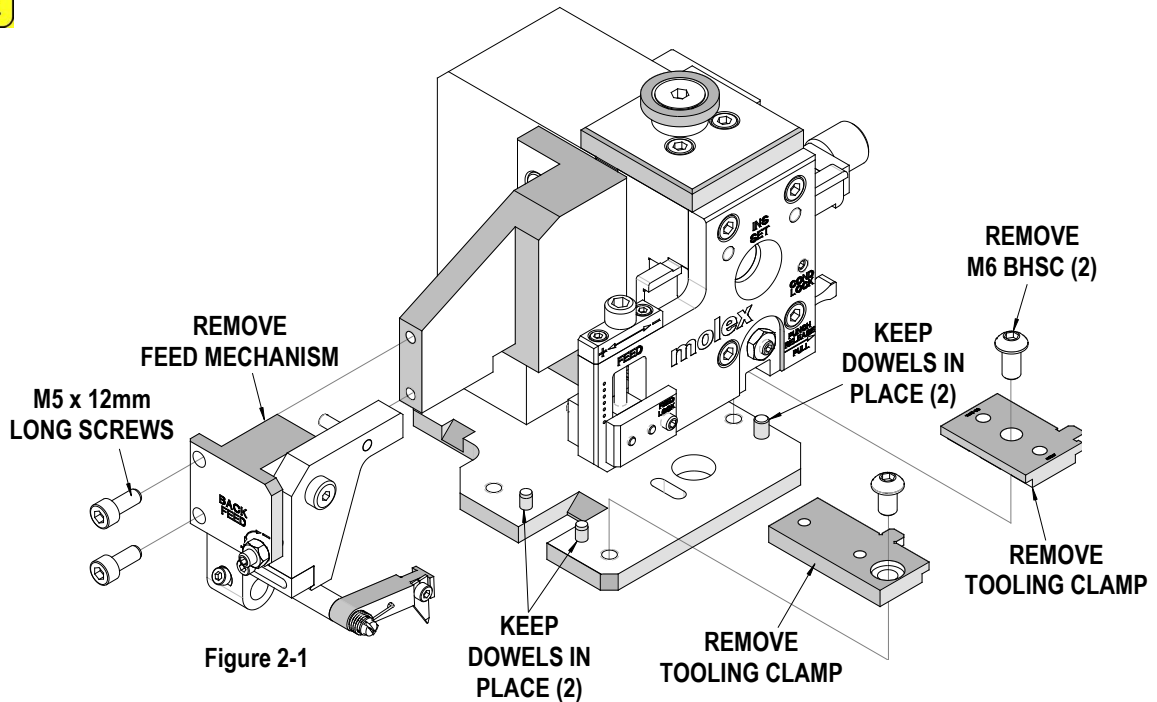

Figure 2-1
1. Using a 4mm hex wrench, remove the (2) M5 x 12mm long screws holding the feed mechanism to the module.
3. Remove the M6 BHCS and the left and right tooling clamps. Leave the dowel pins in the base plate. See Figure 2-1.
The shut height for the Crimp Module is 135.80mm (5.346"). The shut height for the crimp press is calibrated using a Shut Height Gauge. See Figure 2-1. The gauge is designed to apply the proper load at 135.80mm (5.346") shut height. Molex offers an industry standard shut height gauge (order number 63800-7900) that will fit in the TM-3000 and TM-4000 crimp presses. It is recommended that the crimp press shut height be checked regularly.